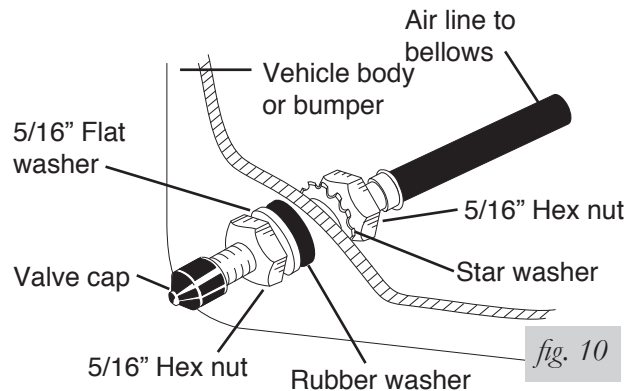

fig. 10
- Place a 5/16" nut and a star washer on the air valve. Leave enough of the inflation valve in front of the nut to extend through the hole and have room for the rubber washer, flat washer, and 5/16" nut and cap. There should be enough valve exposed after installation - approximately 1/2" - to easily apply a pressure gauge or an air chuck (fig. 10).
- Push the inflation valve through the hole and use the rubber washer, flat washer, and another 5/16" nut. Tighten the nuts to secure the assembly in place (fig. 10).